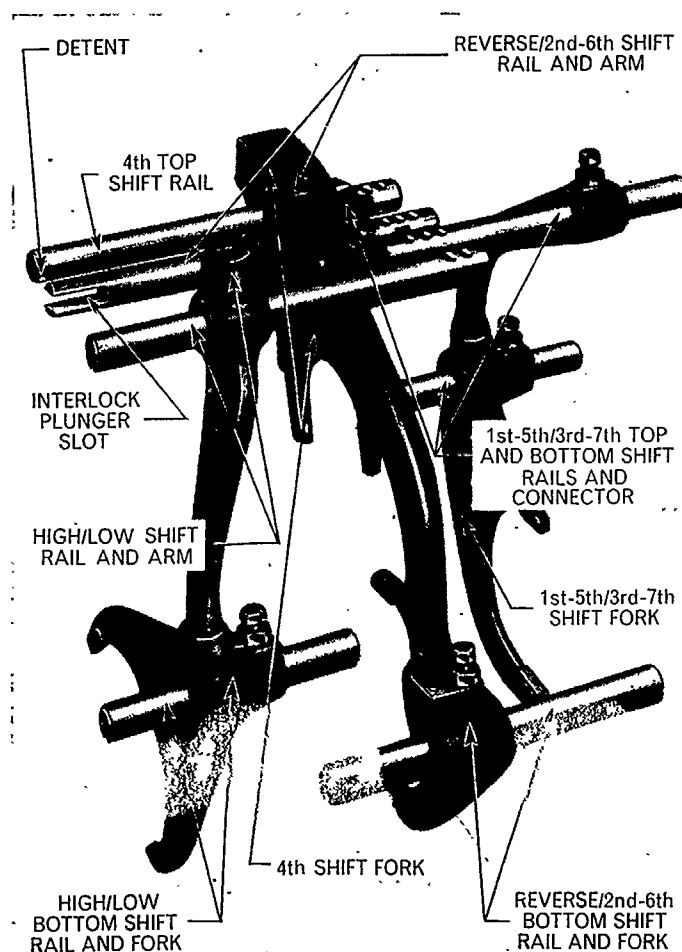
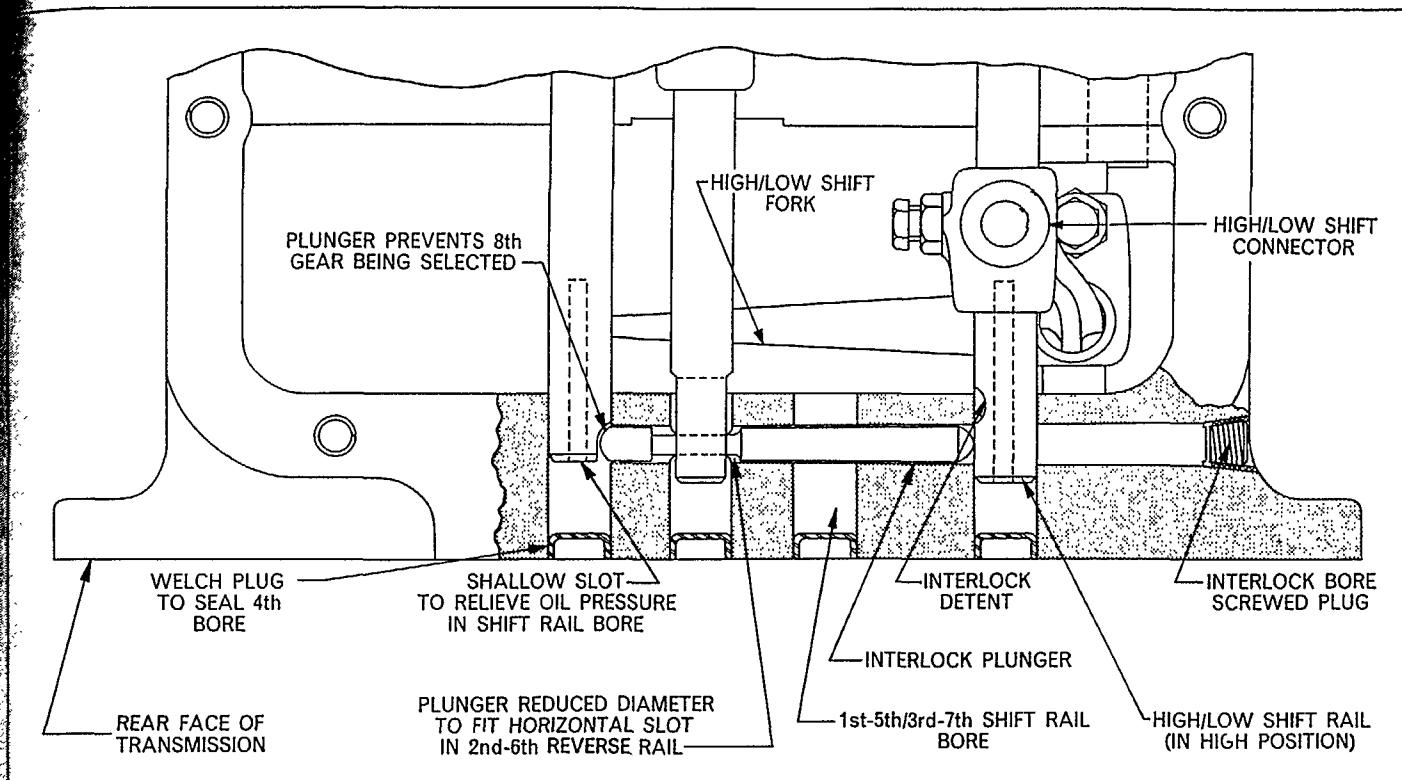

Figure 86
Figure 87
In certain territories, the local legal requirements call for a certain road speed limit for tractors. This is less than the maximum speed possible in 8th gear on the Super Major 5000. For these territories a special interlock has been devised to prevent 8th gear being selected, Figure 87. Except for this interlock plunger and three modified top shift rails (2nd-6th/Reverse; High/Low; and 4th), Figure 86, the transmission is identical to the eight-speed. Servicing procedure is only affected during disassembly and installation of the special interlock plunger and disassembly and installation instructions are as follows:—
2. Make sure the 4th shift rail is in the forward (engaged) position and remove the retaining screw and locknut from the High/Low shift connector arm, Figure 87, and slide the rail out to the rear, pushing the sealing plug out with the end of the rail.
4. Remove the special interlock bore plug, Figure 87, from the right hand side of the transmission and use a suitable piece of wire to push the interlock plunger out of the bore.
2. Pass the Reverse/2nd-6th shift rail in from the rear with the slotted end rearwards and assemble the shift arm so that the bottom of the arm locates in the corresponding hole in the Reverse/2nd-6th shift fork, Figure 86. Push the rail forward enough to allow the slotted end to clear the rear support bore.